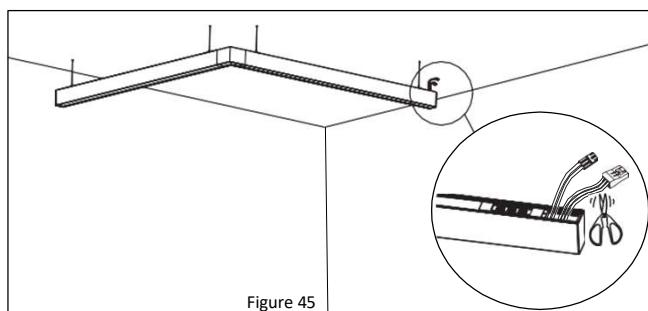

Figure 45
- Cut off the connectors in one end for wiring to line voltage. **See Figure 45.**